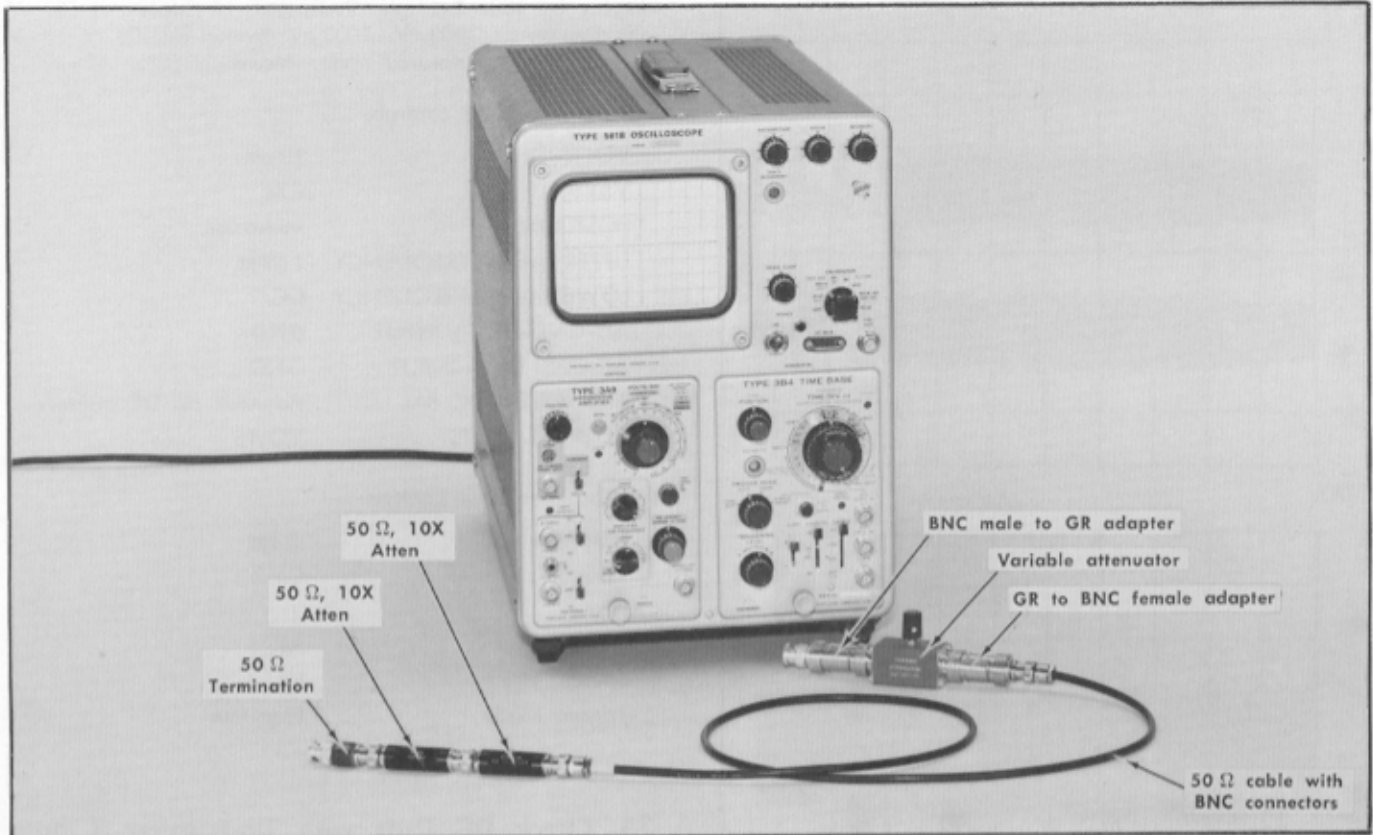

Fig. 5-40. Equipment required for step 34.
a. Test equipment is shown in Fig. 5-40.